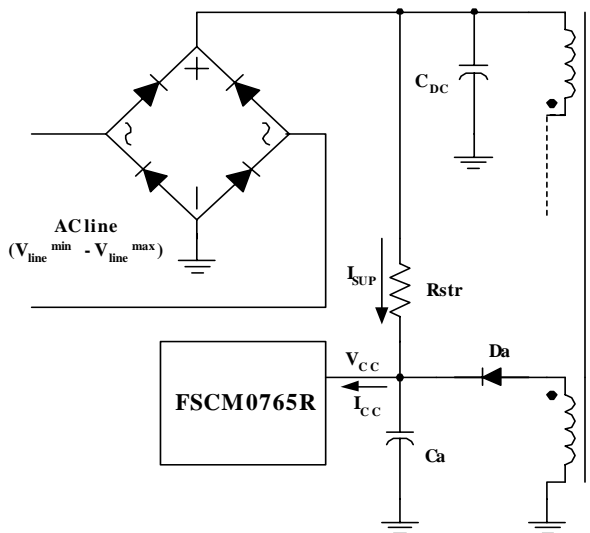
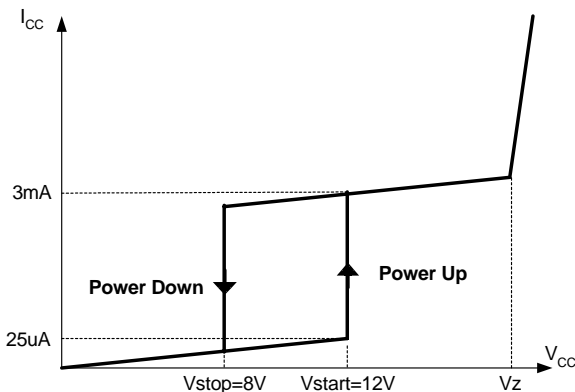

Figure 16. Startup Circuit
Figure 17. Relation Between Operating Supply Current and Vcc Voltage
1. Startup: Figure 16 shows the typical startup circuit and transformer auxiliary winding for the FSCM0765R application. Before the FSCM0765R begins switching, it consumes only startup current (typically 25uA) and the current supplied from the DC link supply current consumed by the FPS (I_{cc}), and charges the external capacitor (C_a) that is connected to the Vcc pin. When Vcc reaches start voltage of 12V (V_{start}), the FSCM0765R begins switching, and the current consumed by FSCM0765R increases to 3mA. Then, the FSCM0765R continues its normal switching operation and the power required for this device is supplied from the transformer auxiliary winding, unless Vcc drops below the stop voltage of 8V (V_{stop}). To guarantee the stable operation of the control IC, Vcc has under voltage lockout (UVLO) with 4V hysteresis. Figure 17 shows the relation between the current consumed by the FPS (I_{cc}) and the supply voltage (Vcc).